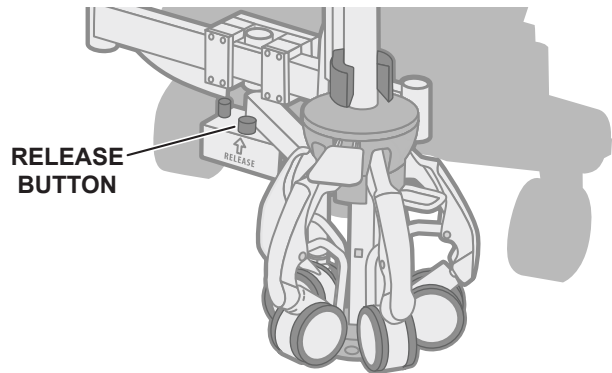

Figure 8. Release Button
2. Using your foot, push down on the release button/lever to position the IV stand/bed mount as desired (Figure 8).